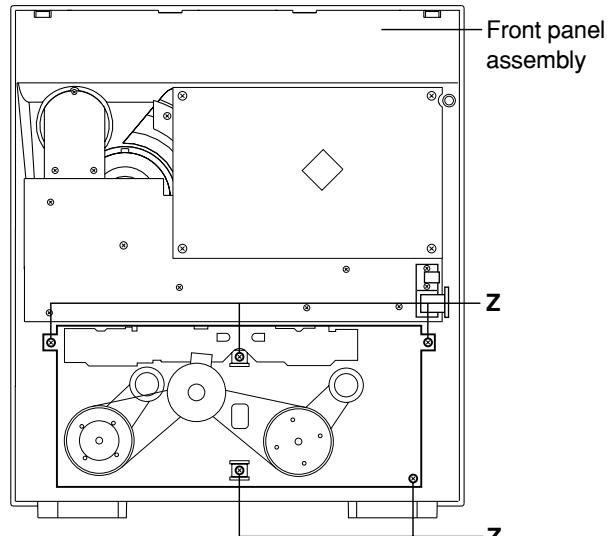

Fig.21
■ Removing the cassette deck mechanism (See Fig.21)
■ Removing the control/FL PCB (See Fig.21)
(See Fig.21, 27 and 28)**
1. Remove five screws **Z** retaining the cassette deck mechanism. (Fig.21)
(See Fig. 21 and 29)**
1. Remove five screws **Z** that retain the cassette deck mechanism. (Fig.21)
■ Removing the cassette deck heads (See Fig. 21 and 30)
- Remove five screws **Z** that retain the cassette deck mechanism. (Fig.21)